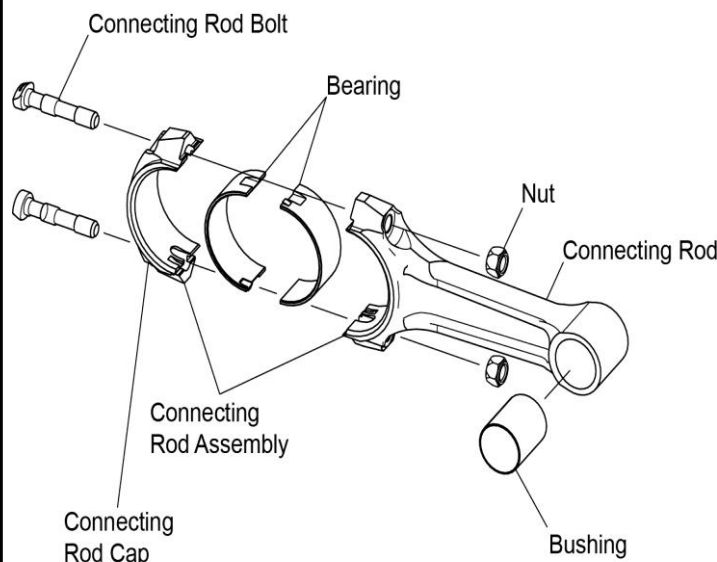

Figure 1
REASON FOR REVISION: Clarified connecting rod bolt selection and installation instructions, added new Figure 1, revised part numbers in Table 1, and added information from obsolete Service Instructions
- Any time connecting rod bolts and nuts are removed, discard both of the connecting rod bolts and nuts (Figure 1) and replace them with “Service Use Only” connecting rod bolts and nuts for the corresponding connecting rod assembly in Table 1 or Table 2.
NOTICE: Any time connecting rod bolts and nuts are removed, discard both of the connecting rod bolts and nuts (Figure 1) and replace them with "Service Use Only" connecting rod bolts and nuts for the corresponding connecting rod assembly
NOTICE: Any time connecting rod bolts and nuts are removed, discard both of the connecting rod bolts and nuts (Figure 1) and replace them with “Service Use Only” connecting rod bolts and nuts for the corresponding connecting rod assembly.